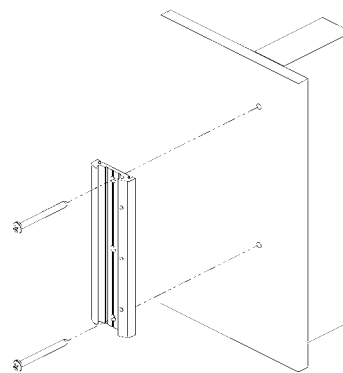

Figure 1. Secure Wall Plate
3. Using two Phillips head #10 wood screws (supplied), secure the wall plate (see Figure 1).